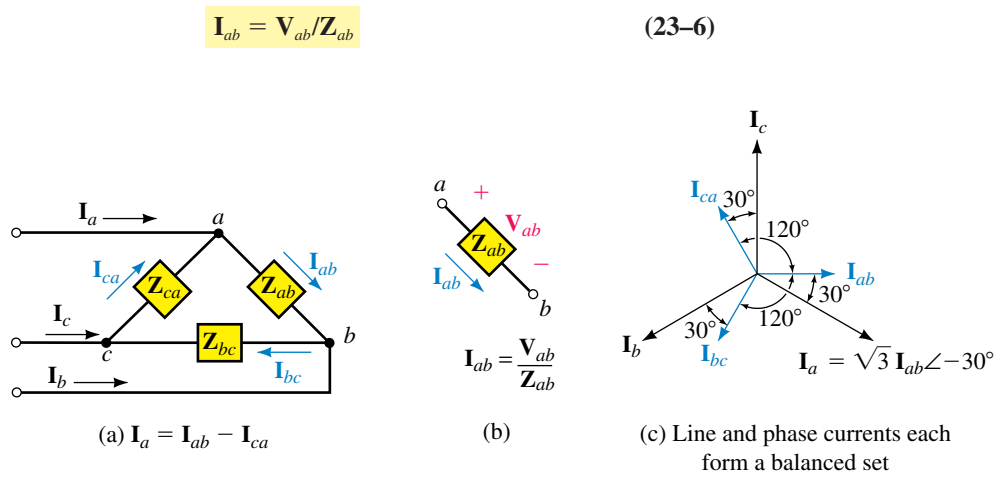

FIGURE 23–12 Currents for a balanced Δ load. If you know one current, you can determine the other five by inspection.
1. If $\mathbf{V}_{ab} = 600 \text{ V} \angle 0^\circ$ for the circuit of Figure 23–11, what are \mathbf{I}_a , \mathbf{I}_b , and \mathbf{I}_c ?
2. If $\mathbf{V}_{bc} = 600 \text{ V} \angle -90^\circ$ for the circuit of Figure 23–11, what are \mathbf{I}_a , \mathbf{I}_b , and \mathbf{I}_c ?
Consider the delta load of Figure 23–12. Phase current \mathbf{I}_{ab} can be found as in (b).
Similar relationships hold for \mathbf{I}_{bc} and \mathbf{I}_{ca} . Since line voltages are balanced, phase currents are also balanced. Now consider again Figure 23–12(a). KCL at node a yields